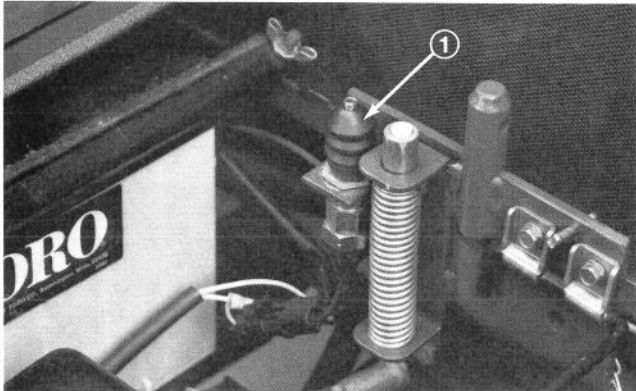

Figure 39
3. Remove boot from button end of seat switch (Fig. 39). Retain boot for reinstallation. Separate switch wire connectors.